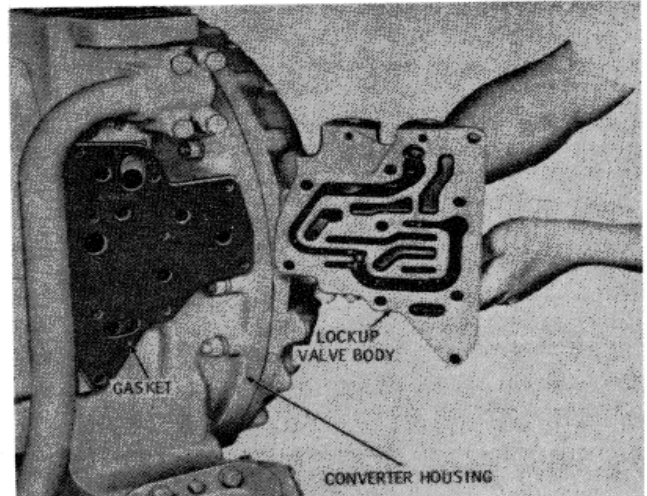

Figure 15-37. Removing Lockup Valve Body Assembly
- 8. Remove lockup valve body assembly 6. Remove and discard the gasket (Figure 15-37).